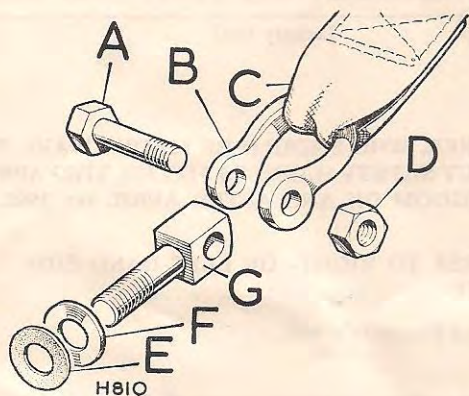

Fig. 2 Shackle end fixings, diagonal and tongue strap ends
3. Remove the shackle bolt 'G' from the shackle end 'B' of diagonal shoulder strap 'C' secured with bolt 'A' and locking nut 'D' as illustrated at Fig. 2.